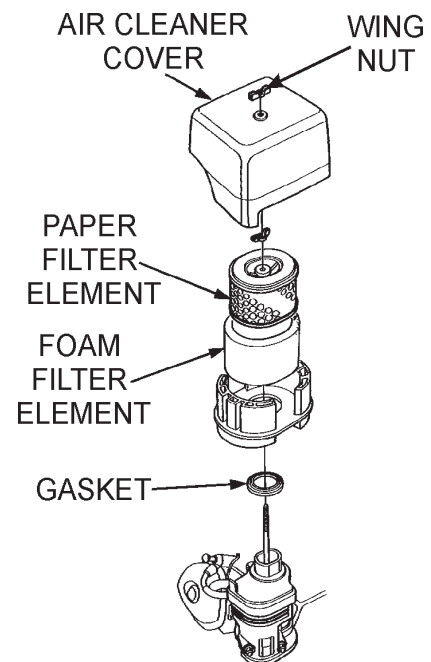

Figure 20. Engine Air Cleaner
1. Remove the air cleaner cover and foam filter element as shown in Figure 20.
2. Tap the paper filter element (Figure 20) several times on a hard surface to remove dirt, or blow compressed air [not exceeding 30 psi (207 kPa, 2.1 kgf/cm2)] through the filter element from the air cleaner case side. **NEVER** brush off dirt. Brushing will force dirt into the fibers. Replace the paper filter element if it is excessively dirty.